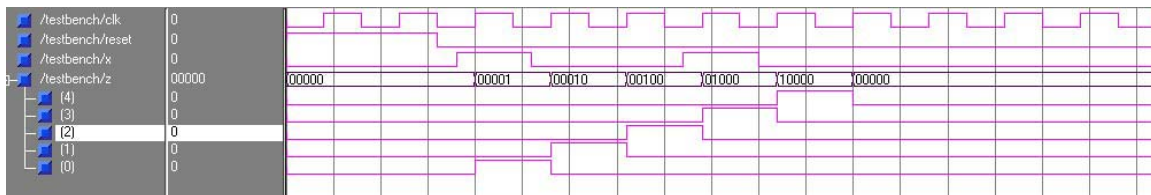

Figure 4; Simulation output.
3. Verify the operation of the sequence detector by looking at the input and output signals in the **Wave** window (figure 4) from the simulator.